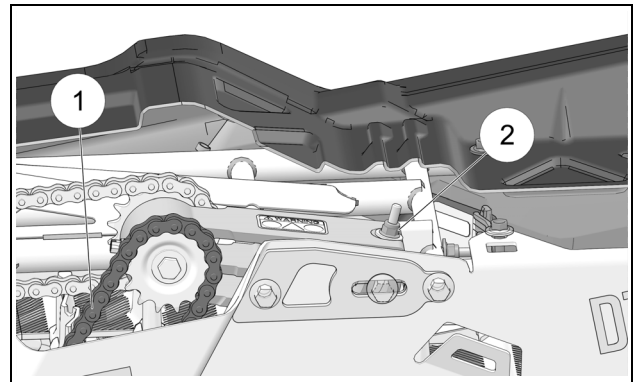

Figure 9
- Adjust next the tension in the secondary drive chain (1) by turning the vertical adjustment nut (2) on the chain tensioner. See Figure 9.